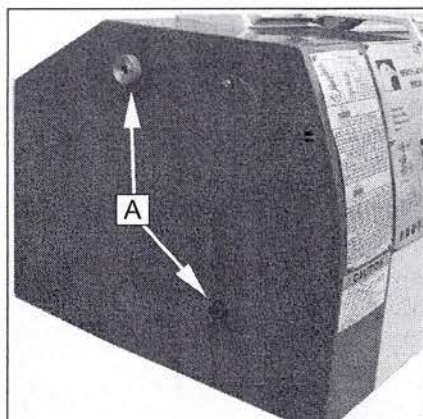

Fig. 19
1. Unscrew the two fastening screws (B, Fig.19) and remove the protective cover.